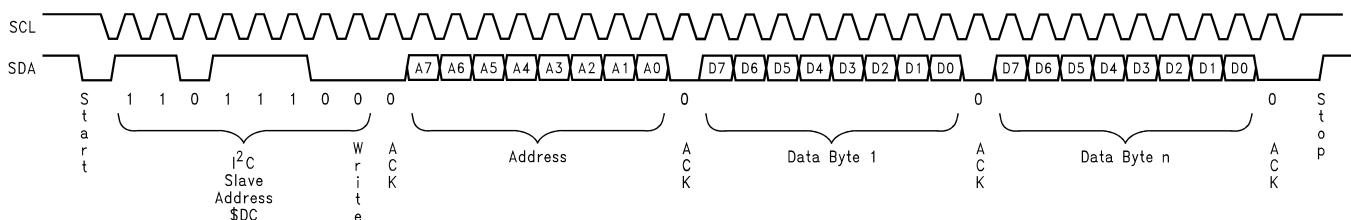

Figure 9. LMH1982 Write Sequence
The protocol of the I2C interface begins with the start pulse followed by a byte comprised of a seven-bit slave device address and a read/write bit as the LSB. Therefore, the address of the LMH1982 for write sequences is DCh (1101 1100) and the address for read sequences is DDh (1101 1101). Figure 9, Figure 10, and Figure 11 show a write and read sequence across the I2C interface.
The write sequence begins with a start condition, which consists of the master pulling SDA low while SCL is held high. The slave device address is sent next. The address byte is made up of an address of seven bits (7:1) and the read/write bit (0). Bit 0 is low to indicate a write operation. Each byte that is sent is followed by an acknowledge (ACK) bit. When SCL is high the master will release the SDA line. The slave must pull SDA low to acknowledge. The address of the register to be written to is sent next. Following the register address and the ACK bit, the data byte for the register is sent. When more than one data byte is sent, it is automatically incremented into the next address location. See Figure 9. Note that each data byte is followed by an ACK bit.